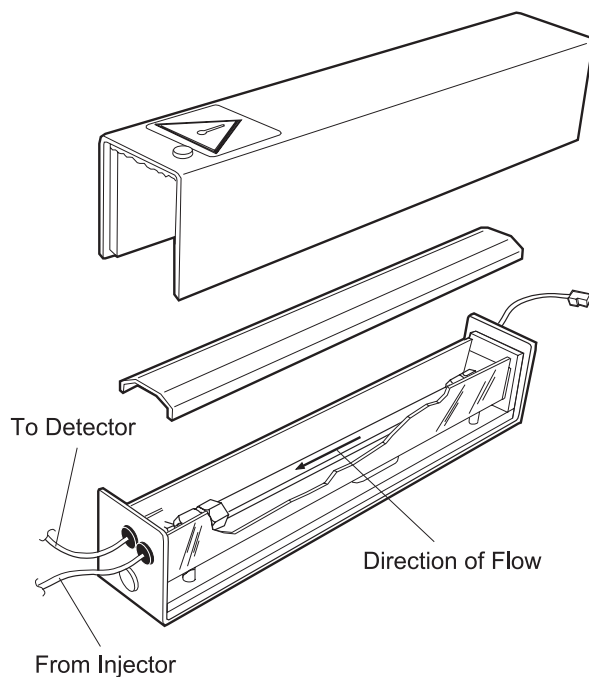

Figure 2-14 Column Installation in the Column Heater
4. Lift the column heater covers straight off the column heater (Figure 2-14). Place your column (up to 8 mm ID by 30 cm) in the center channel of the column heater tray with the arrow on the column label pointing toward the front of the drawer.
5. Attach the inlet tubing and outlet tubing to the column as described below (Figure 2-14). Follow column instructions for flow direction.